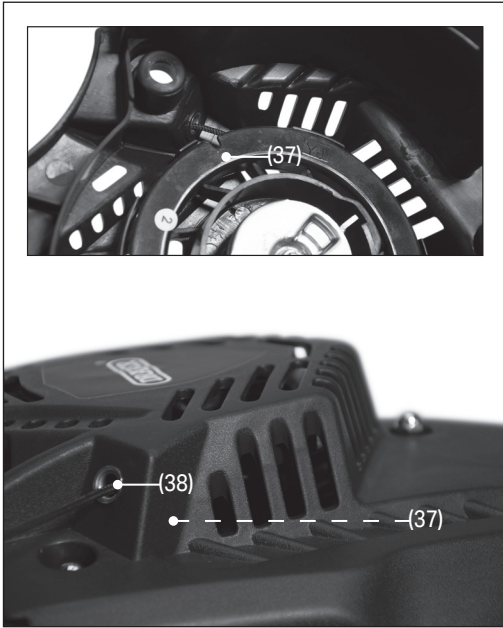

Fig. 36
- b. Continue pulling gently on the recoil starter until the notch (37) on the rotary disc aligns with the starter cord entry point (38) on the starter housing (Fig. 36 – underside view).
5. Raise the drag bar (4) so that the lowest of the grooves is engaged.